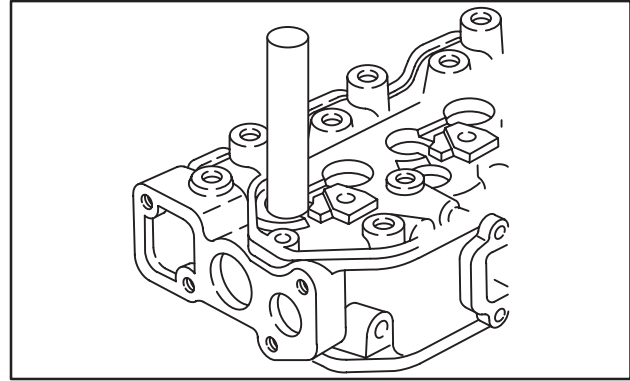

Fig. 16 – Installing Valve Guide Bushing
4. Using bushing driver, Tool #19416, press in new valve guide bushing until tool bottoms on cylinder head, Fig. 16.